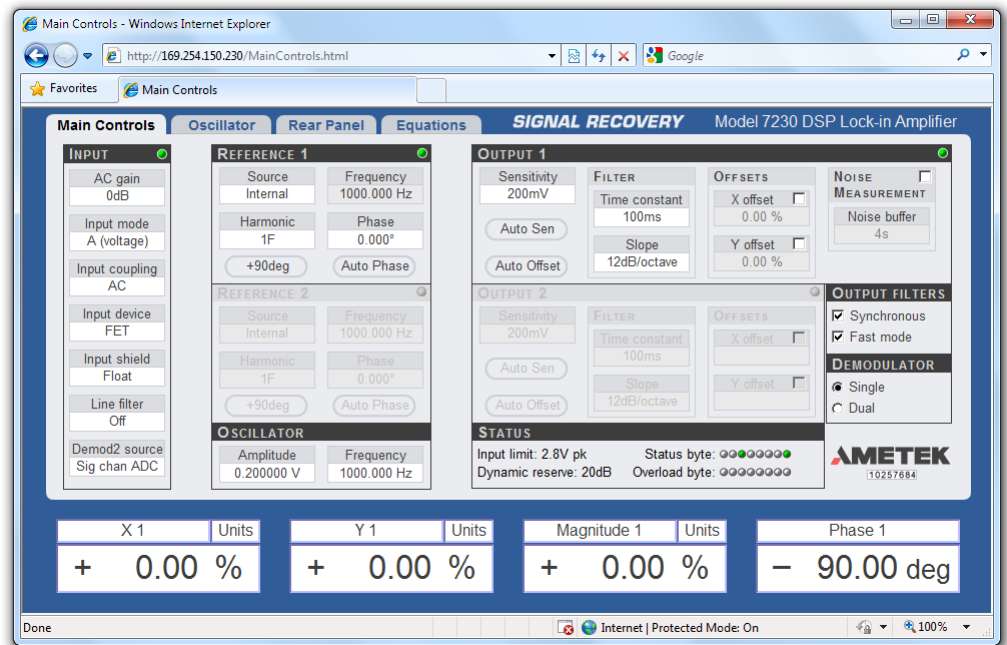

Figure 5-6, Model 7230 Main Controls Panel
- 15) Open a new browser session and type the IP address for the model 7230 determined in section 14, which in this example is 192.168.0.101, into the address bar and press <return>. The 7230's Main Controls panel should be displayed, as shown below in figure 5-6.